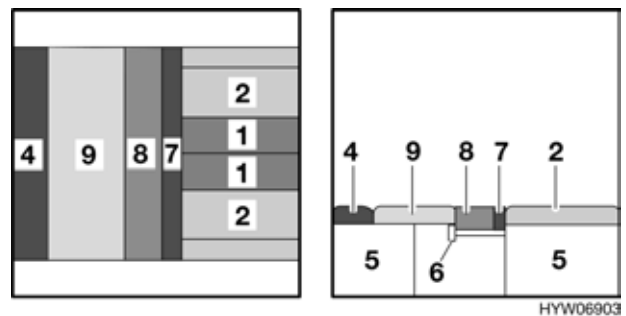

Fig. 81 After conversion
- Insert the additional cushion (Fig. 81,4) between the seat cushion (Fig. 81,9) and the exterior wall.
- Lay the back cushion (Fig. 81,8) and the additional cushion (Fig. 81,7) on both bedding box extensions.